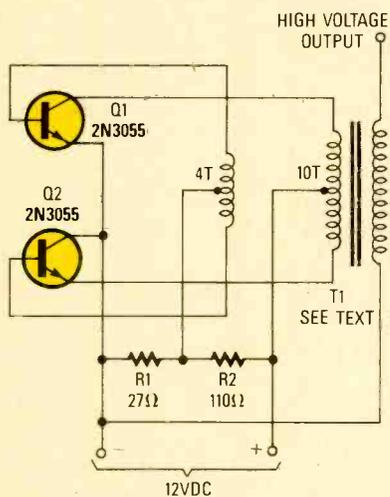

Fig. 1. A modified black-and-white TV flyback transformer is at the heart of the plasma-globe power supply. The transformer is driven by a blocking oscillator.
There are many ways of exciting a flyback transformer, but none of them are downright easy. One is to drive the transformer with a square-wave oscillator built around a 741 op-amp or the popular 555 timer. However, I found that a blocking oscillator (Fig. 1) was about the best solution.
Hook up the circuit as shown in Fig. 1. Plastic insulators must be used where the transistor leads pass through the heat sink and a mica disc is used in between the transistor and heat sink. Heat-conducting grease should be applied over and under the mica disc.
**Differential Input Comparators.** A comparator circuit is one that provides an indication of the relative state of signals applied to its inputs. If one input is a reference voltage and the other is an unknown or "signal" voltage, the output of the comparator will indicate whether the unknown input is above or below the reference voltage. A basic op-amp comparator is shown in Fig. 1.
Fig 1. A basic op-amp comparator is shown here. Because the op-amp is operated in an open loop configuration, the input voltage difference required to toggle the output from one state to another is very small.
Without R2, the circuit would perform similar to the circuit in Fig. 1. If  $V_{ref}$  (for example) were 1 volt, the output would toggle as  $V_{in}$  rises above or dips below 1 volt.